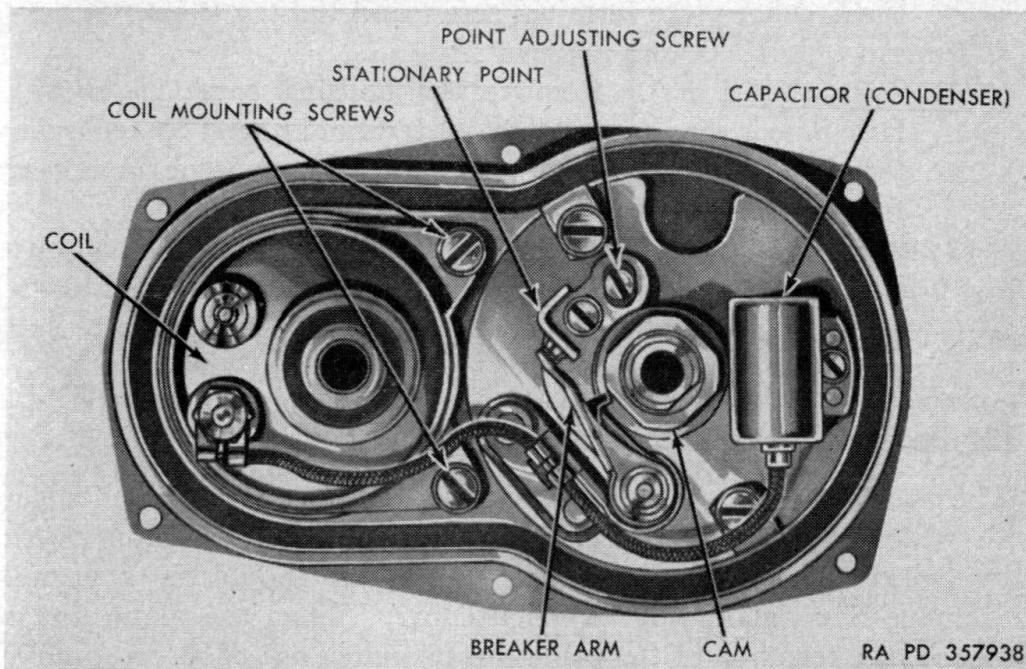

Figure 33. Distributor.
**b. REMOVAL.** Disconnect the vent tubes and the primary cable fitting. Disconnect the four spark-plug cable fittings at the cap. Remove the six cover screws and lift off the cover. Mark the position of the rotor (fig. 33) to facilitate installation of the replacement unit. Remove the mounting screw and lift the unit from the engine.
(1) *Removal* (fig. 33). Remove the housing cover (*b* above).
(3) *Adjustment*. The contact gap should be set at 0.020 inches as measured by a feeler gage. Adjustment is made by loosening lock screw (fig. 33) and turning eccentric. Tighten the lock screw and check again. Should new points be installed, they should be alined to make contact at the center of the contact surfaces. Bend the stationary contact bracket to be sure of proper alinement, after which the gap should be rechecked.
- (1) *Removal* (fig. 33). Remove the housing cover (*b* above). Disconnect wire at negative (-) terminal of coil by removing terminal nut and washer. Remove the two coil mounting screws and lift out the coil.
- (2) *Installation.* Insert the coil in the housing and fasten down with the two mounting screws. Fasten wire terminal to the negative terminal of the coil with the terminal nut and washer.